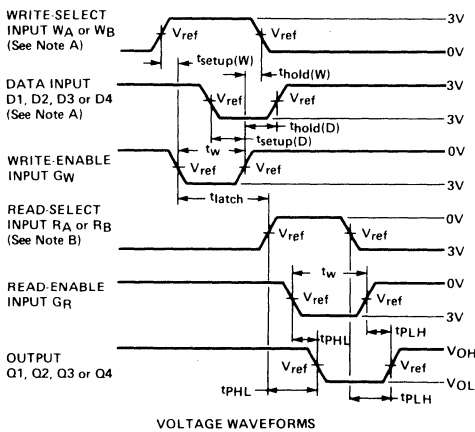

FIGURE 1
Test Condition: <math>R_L = 2.0k</math>, <math>C_L = 50pF</math>, (See Figs. 1 and 2 and Fig. B, page 2-174)
- High-level input pulses at the select and data inputs are illustrated in Figure 1; however, times associated with low-level pulses are measured from the same reference points.